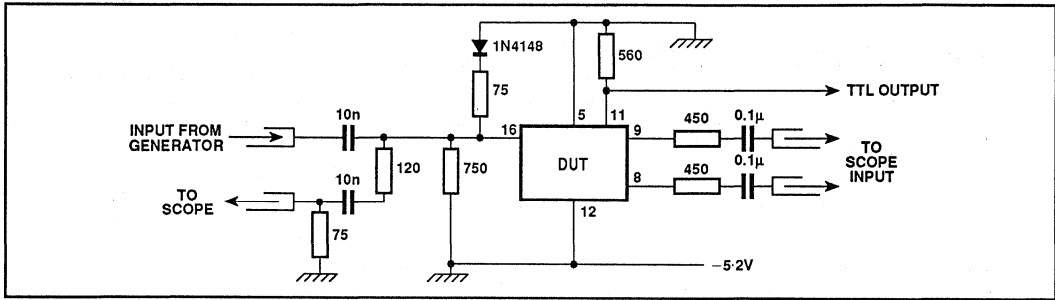

Fig. 6 Test circuit
2. The test configuration for dynamic testing is shown in Fig.6.
- The clock inputs can be driven from ECLII, III and 10K. The input reference voltage (-3.8V at 25°C) is compatible with ECLII, III and 10K over the specified temperature range. The inputs can also be capacitively coupled by addition of external bias as shown in Fig. 6. Each input has an internal pulldown resistor of 10kΩ and can therefore be left open circuit. They should be bypassed to RF where maximum noise immunity is required.
- The TTL/CMOS output is a free collector and the high state output voltage will depend on the supply that the collector load is taken to; this should not exceed 12V. The rise and fall time of the open collector output waveform is directly proportional to load resistance and load capacitance. The load capacitance should therefore be kept to a minimum and the load resistance should be kept to the minimum consistent with system power requirements. In the test configuration of Fig. 6 the output rise time is approximately 10ns and fall time is 7ns typically.